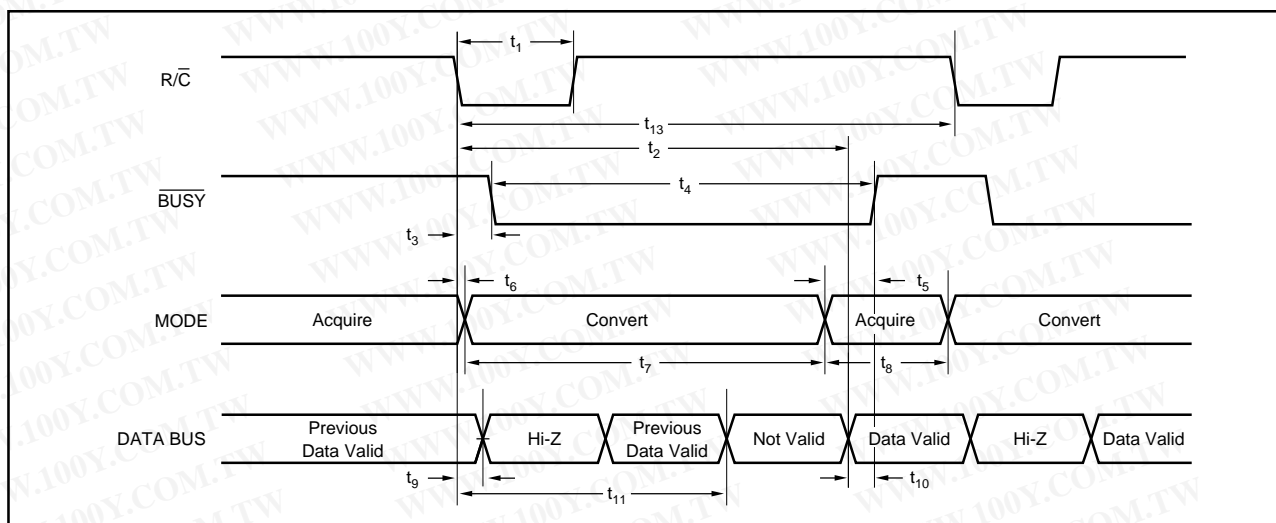

FIGURE 3. Conversion Timing with Outputs Enabled after Conversion ( $\overline{CS}$  Tied LOW.)
Table II for a summary of  $\overline{CS}$ ,  $\overline{R/\overline{C}}$ , and  $\overline{BUSY}$  states and Figures 3 through 5 for timing diagrams.
NOTE: (1) See Figures 3 and 4 for constraints on data valid from conversion "n-1".
After conversion 'n' is completed and the output registers have been updated,  $\overline{BUSY}$  (pin 26) will go HIGH. Valid data from conversion 'n' will be available on D15-D0 (pin 6-13 and 15-22).  $\overline{BUSY}$  going HIGH can be used to latch the data. Refer to Table IV and Figures 3 and 5 for timing specifications.
After conversion 'n' has been initiated, valid data from conversion 'n-1' can be read and will be valid up to  $7\mu s$  after the start of conversion 'n'. Do not attempt to read data from  $7\mu s$  after the start of conversion 'n' until  $\overline{BUSY}$  (pin 26) goes HIGH; this may result in reading invalid data. Refer to Table IV and Figures 3 and 5 for timing specifications.
The number of control lines can be reduced by tying  $\overline{CS}$  LOW while using  $R/\overline{C}$  to initiate conversions and activate the output mode of the converter. See Figure 3.